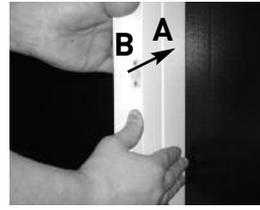
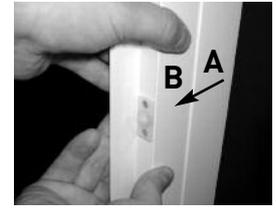

Figure a10
Figure a10i
⑩ To enable the Pivot Door (B) to open with more ease, the Ball Catch can be positioned so as to affect its resistance. To achieve this, push the Pivot Door main frame further into the Wall Profile (A) following the arrow (**Figure a10**). If you need the Pivot Door to close more firmly behind the Ball Catch, simply reverse the above and pull the Pivot Door main frame (B) following the arrow away from the Wall Profile (A) (**Figure a10i**). **Once the Pivot Door is closing more firmly behind the Ball Catch, drill with a 2.5mm Drill Bit (C), and follow Stage 9 to Screw Fix and Cover.**
②	Are the Wall Profiles completely vertical?
③	Is the ball catch at the correct adjustment (Figure a10/a10i) ?